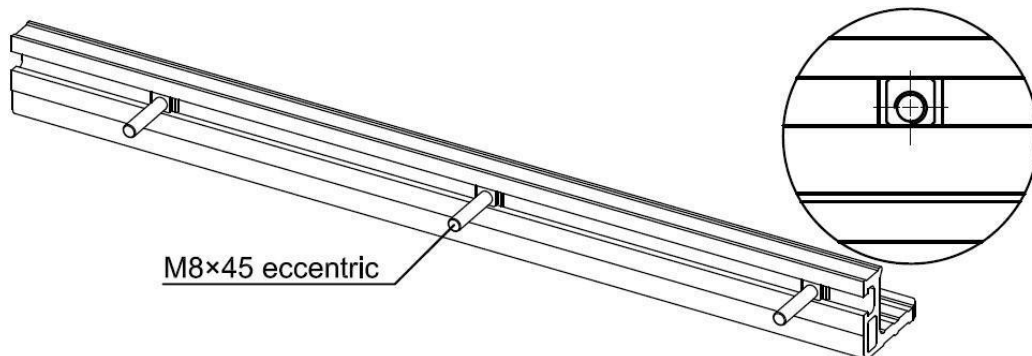

Fig. 9-4
1. Insert three M8×45 eccentric bolts into the T-slot of the Rear Guide Rail C, as shown in Fig. 9-4.